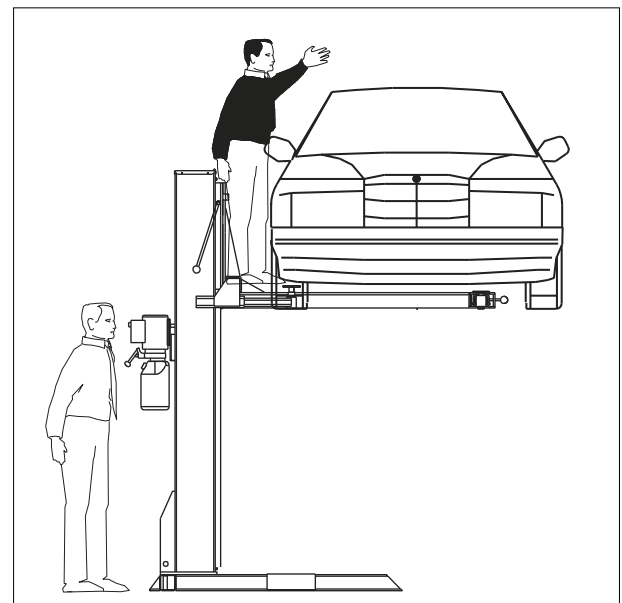

Fig. 19
**NEVER BOARD THE VEHICLE AND/OR TURN THE ENGINE ON WHEN LIFT IS RAISED. (Fig. 19)**